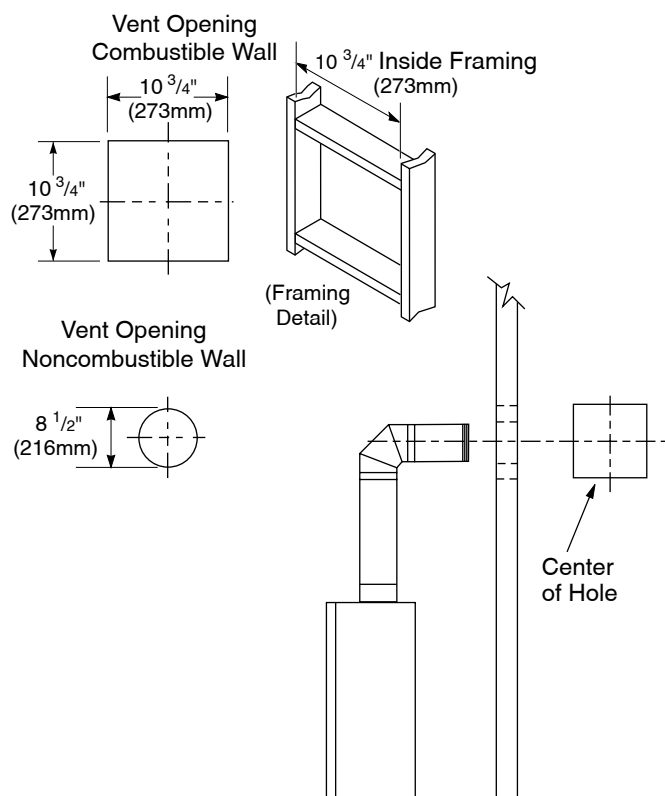
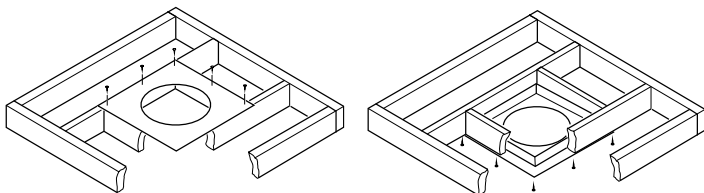

Figure 12 - Vent Opening Requirements
Figure 27 - Installing Firestop
5. Carefully determine the location where the vent pipe assembly will penetrate the outside wall. The center of the hole should line up with the center-line of the horizontal vent pipe. Mark the wall for a 10 3/4" x 10 3/4" square hole. Cut and frame the square hole in the exterior wall where the vent will be terminated. If the wall being penetrated is constructed of noncombustible material, such as masonry block of concrete, a 8 1/2" hole with zero clearance is acceptable (see **Figure 12**).
1. Cut a 10 3/4" square hole in the ceiling using the locating hole as a center point. The opening should be framed to 10 3/4" x 10 3/4" (273 mm x 273 mm) inside dimensions, as shown in **Figure 12** on page 9 using framing lumber the same size as the ceiling joists. If the area above the ceiling is an insulated ceiling or a room, nail firestop from the top side. This prevents loose insulation from falling into the required clearance space. Otherwise, install firestop below the framed hole. The firestop should be installed with no less than three nails per side (see **Figure 27**).
3. Cut a hole in the roof using the locating hole as a center point. (Cover any exposed open vent pipes before cutting hole in roof.) The 10 3/4" x 10 3/4" hole must be measured on the horizontal; actual length may be larger depending on the pitch of the roof. There must be a 1" clearance from the vent pipe to combustible materials. Frame the opening as shown in **Figure 12**, page 9.